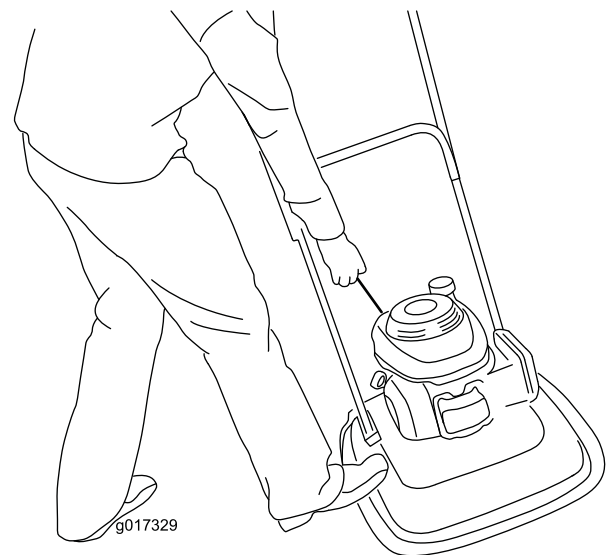

Figure 16
3. Place your foot on the deck and tilt the machine towards you (Figure 16).